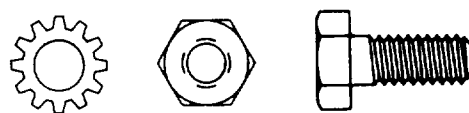

Fig. 32 - Lockwasher, Hex Nut, and Hex Head Bolt
1. Put a lockwasher on a hex head bolt. (Figure 32)